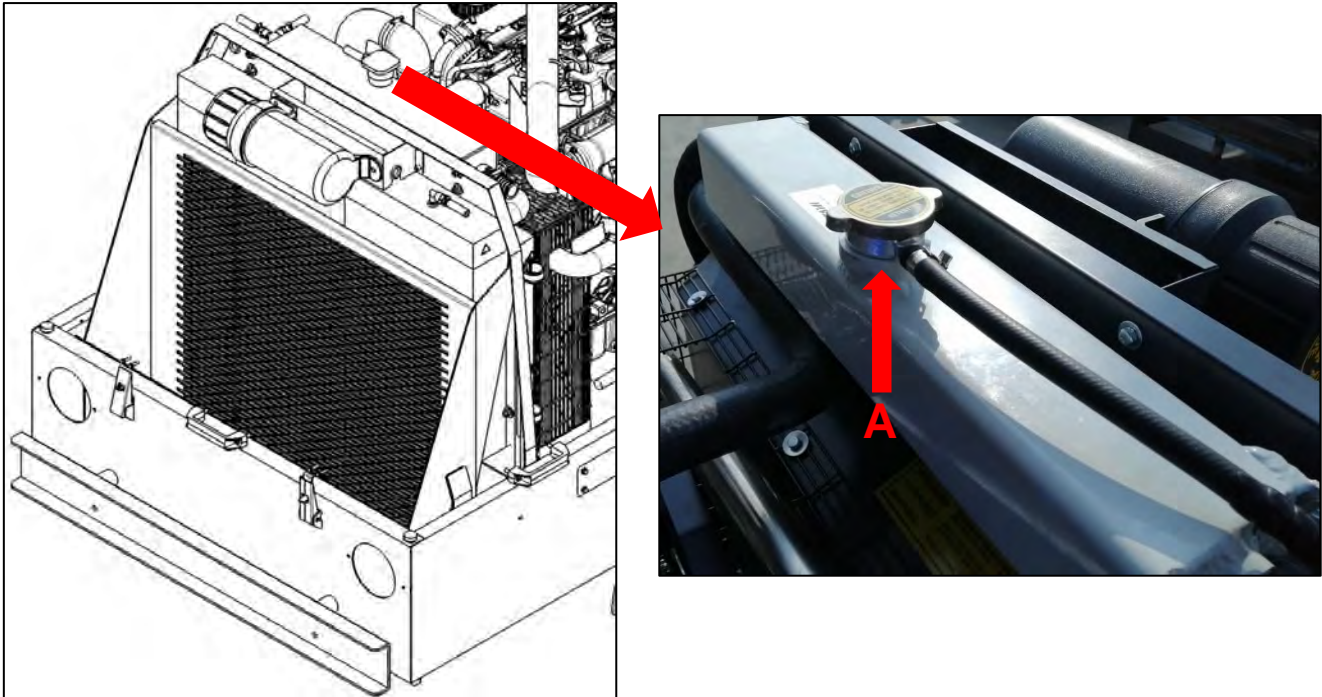

Figure 13.4-3 Checking the coolant radiator
To determine the proper amount of antifreeze to be added to the radiator you must (Figure 13.4-3) follow the following table:
**WARNING:** The radiator cap (Figure 13.4-3 - A) must never be removed on a warm engine: this condition would occur a sudden leakage, which could cause serious burns to the person. The filling must be done with a mixture of water and antifreeze liquid, in the percentage indicated on the label of the container .